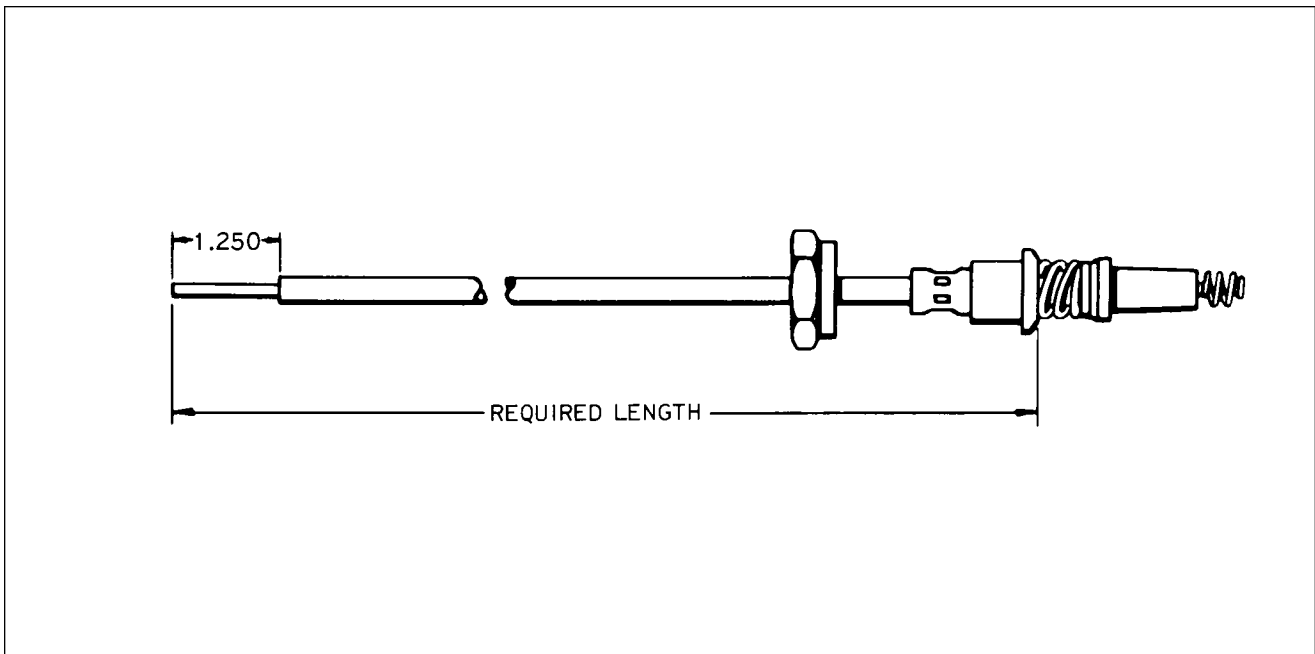

Figure 74-34. Measuring Lead Assembly Length
- (1) Measure the length of the condemned lead assembly. Move coupling nut back on lead assembly and measure from outer end of ferrule at spark plug end. (Refer to Figure 74-34)
- (2) To length determined in Step (1), add 1-3/4 inches.